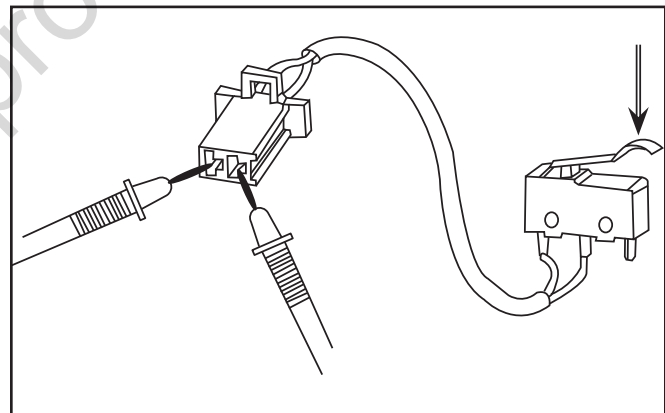

Figure 46
4. If there is no continuity at the 10-pin connector, test at the switch. If the microswitch is pressed down (Figure 46) there should be continuity. If not, replace the switch.